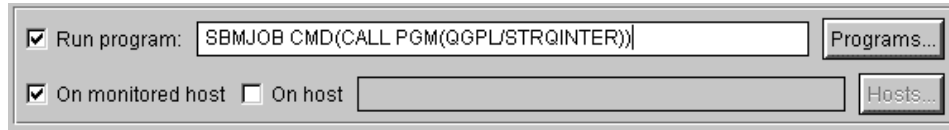

Figure 277. Using the Run Program monitor option
9. Next, we want configure the monitor to restart QINTER when it ends. To do this, we select the **Run Program** checkbox as shown in Figure 277.